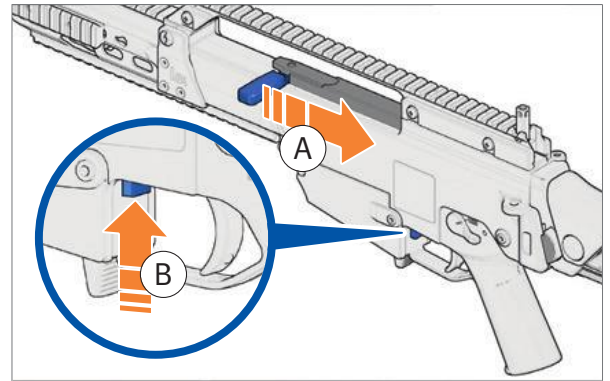

Fig. 16: Lock bolt group into place
1. Pull charging handle back and hold it (Fig. 16).
2. Press bolt catch/release upwards and hold it (Fig. 16).